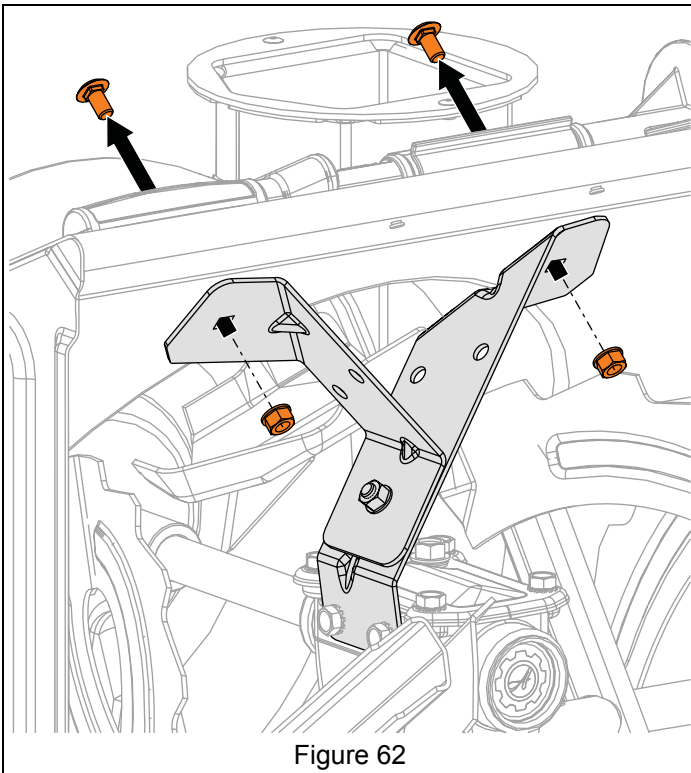

Figure 62
8. Remove hardware retaining gearcase support brackets to auger housing. See Figure 62.